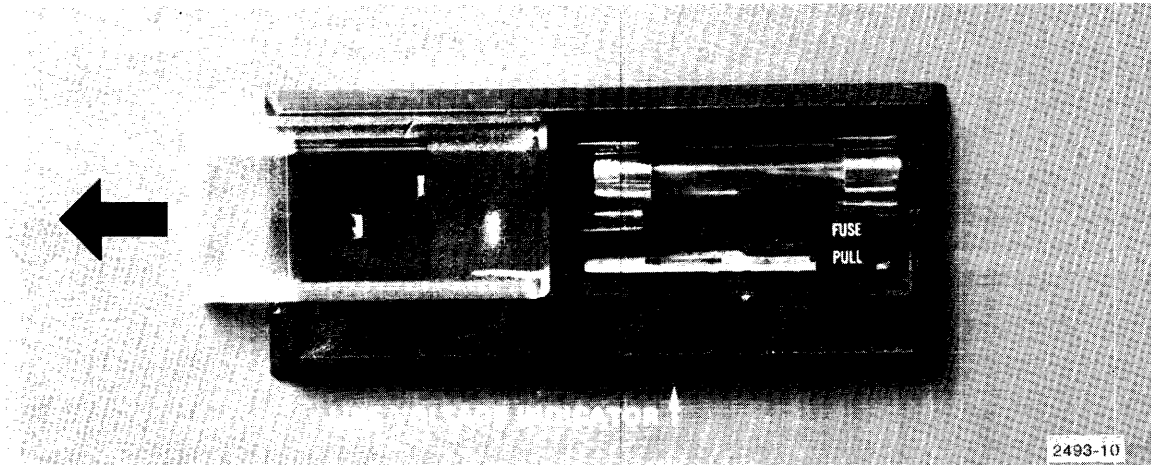

Figure 3-7. Moving viewport to the left.
1. Each 4907 cabinet has a sliding plastic viewport over the line voltage selector located in the rear. Move the viewport to the left (Figure 3-7).